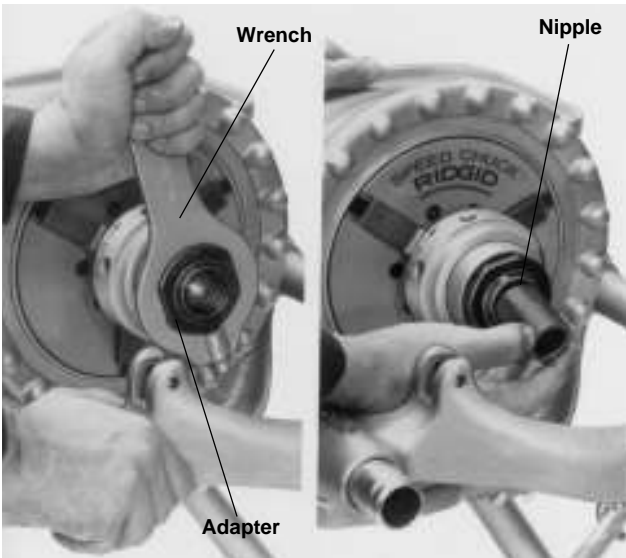

**Figure 23 – Installing Nipple Chuck Body and Insert**
3. Place nipple chuck body (Figure 23) in Power Drive chuck, gripping jaw grooves. Tighten chuck with snap spin of handwheel.
4. Position insert (Figure 23) with small end toward chuck body for 1/8" to 3/4" pipe; large end toward chuck body for 1" pipe; no insert required for 1-1/4" pipe and up.